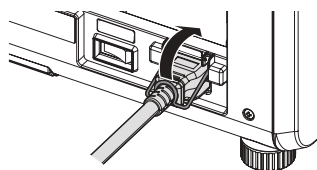

Fig. 1
- 2) Raise the power cord holder fixing the power cord upward. (Fig. 1)